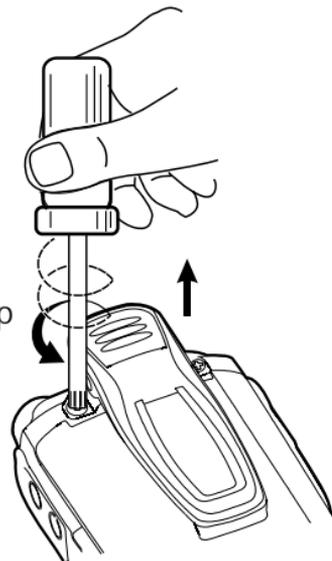

Figure 8-
3. To remove the belt clip, turn the screwdriver counter-clockwise to loosen the screw. See Figure 8 below.